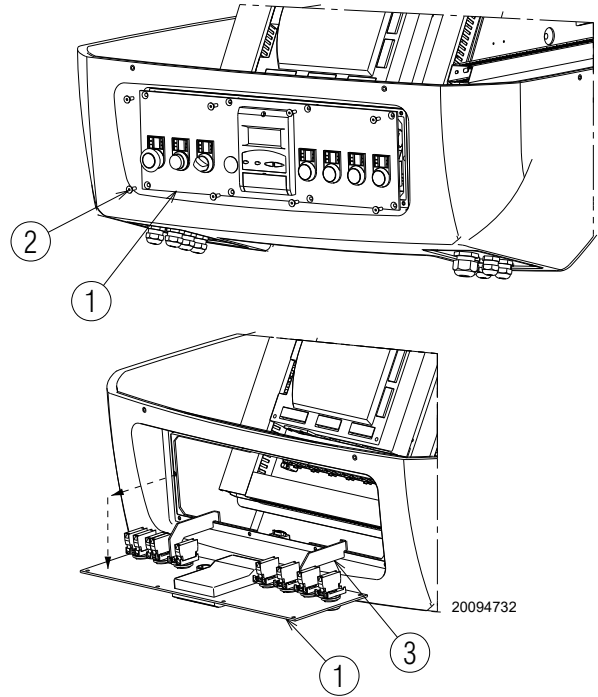

Fig. 32
- extract the control panel 1) and turn it 90°, hooking it with the brackets 3) in the profile of the electrical panel as shown in Fig. 32;